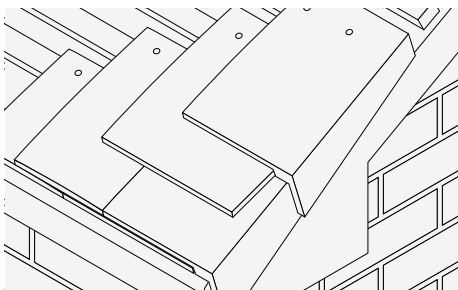

Fig. 10 – Successive courses
- 8 Mechanically fix these or install with Marley dry ridge system (Fig. 10).